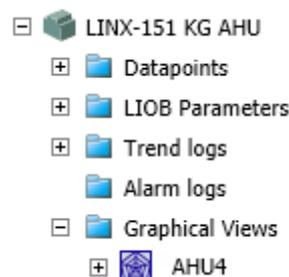

Figure 93: Graphical View in LOYTEC Device
- Graphical view in LOYTEC device: These views are located in the **Graphical Views** folder below a LOYTEC device (see Figure 93). In order to display real-time data, the graphical view communicates directly with the LOYTEC devices using OPC XML-DA. This approach has the advantage that it offers faster response times. However, value changes cannot be logged by the server, because the communication bypasses the LWEB-900 Server.